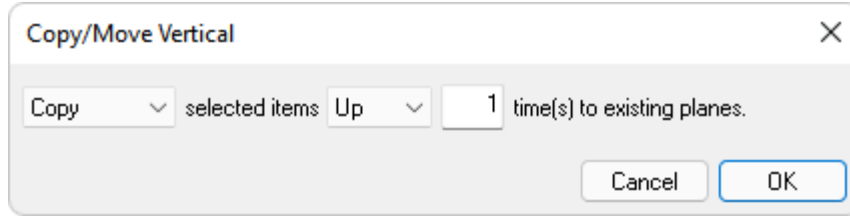

FIGURE 4-4
- Click on the drop-down box labeled *To* and select **Up**. This will change the *Copy/Move Vertical* window to be as shown in **FIGURE 4-4**.